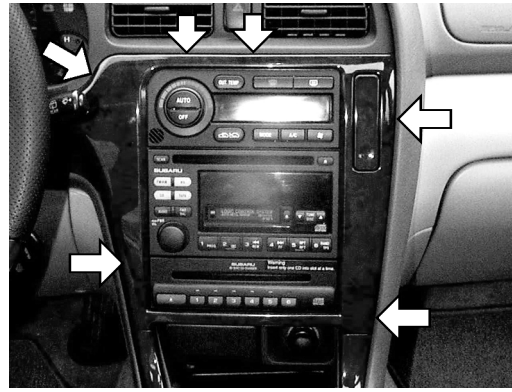

Figure 4
- Lift the center console cover by carefully pulling outward in areas indicated by arrows in Figure 4.